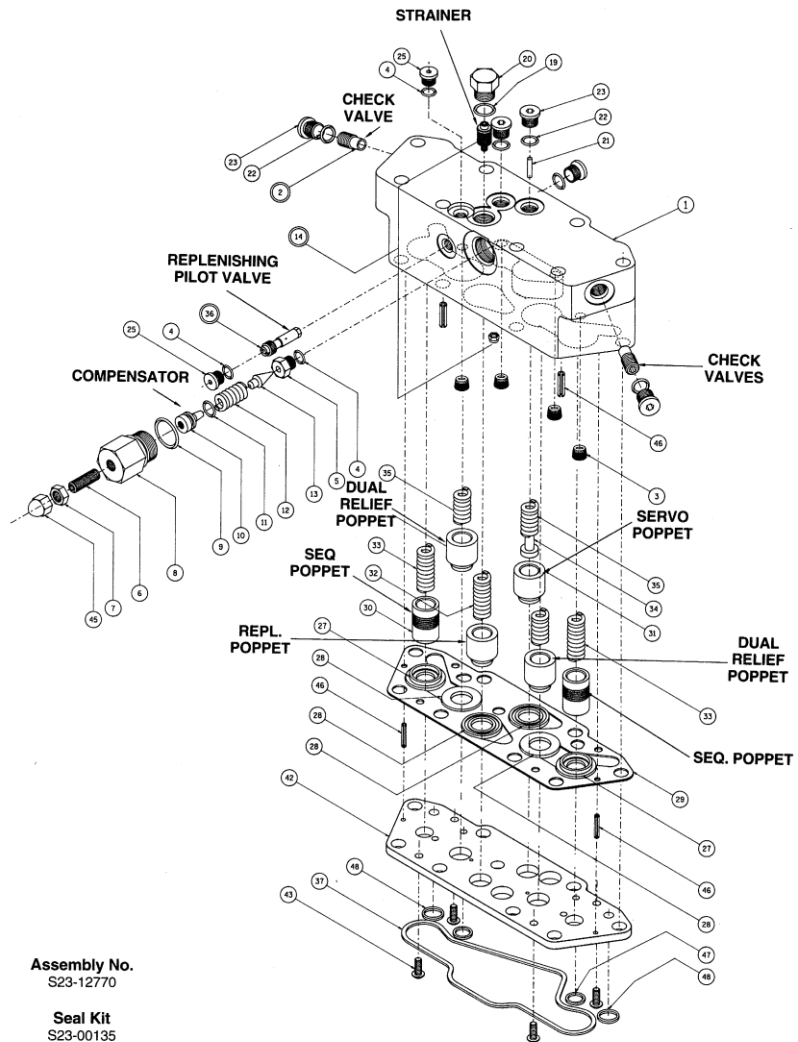

FIGURE 10
PARTS LIST FOR FIGURE 10
See figure 10: Place valve block (1) with the six poppet valve bores up in order to press two spring pins (26) in position. Spring pins to be .12" (3.04 mm) below the surface of valve block. (Not required after 8-96)